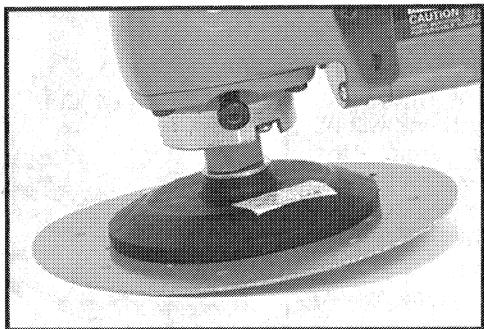

Fig. 3
3. Hold sander firmly by the rear and auxiliary handles, making sure sanding disc is clear of work and foreign objects. Start sander and lower at an angle so that approximately 1" to 1¼" of the sanding disc contacts the work. See Fig. 3. Too great an angle may result in gouging or snagging the work, while too small an angle results in extreme difficulties in controlling the sander.